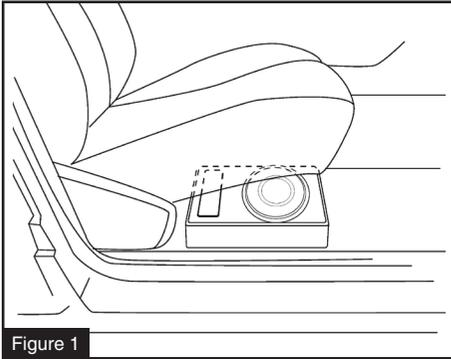

Figure 1
2. Decide the best location possible that suits your automobile and space available, checking that the enclosure doesn't restrict the seat mobility. (See Figure 1)